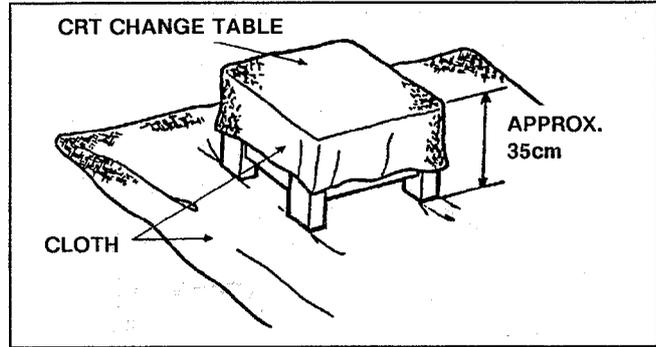

Fig. 4
- 1. Putting the CRT change table on soft cloth, the CRT change table should also be covered with such soft cloth. (shown in Fig. 4)
3] As soon as the clock starts, it will say "THANK YOU!!". (Fig. 4)